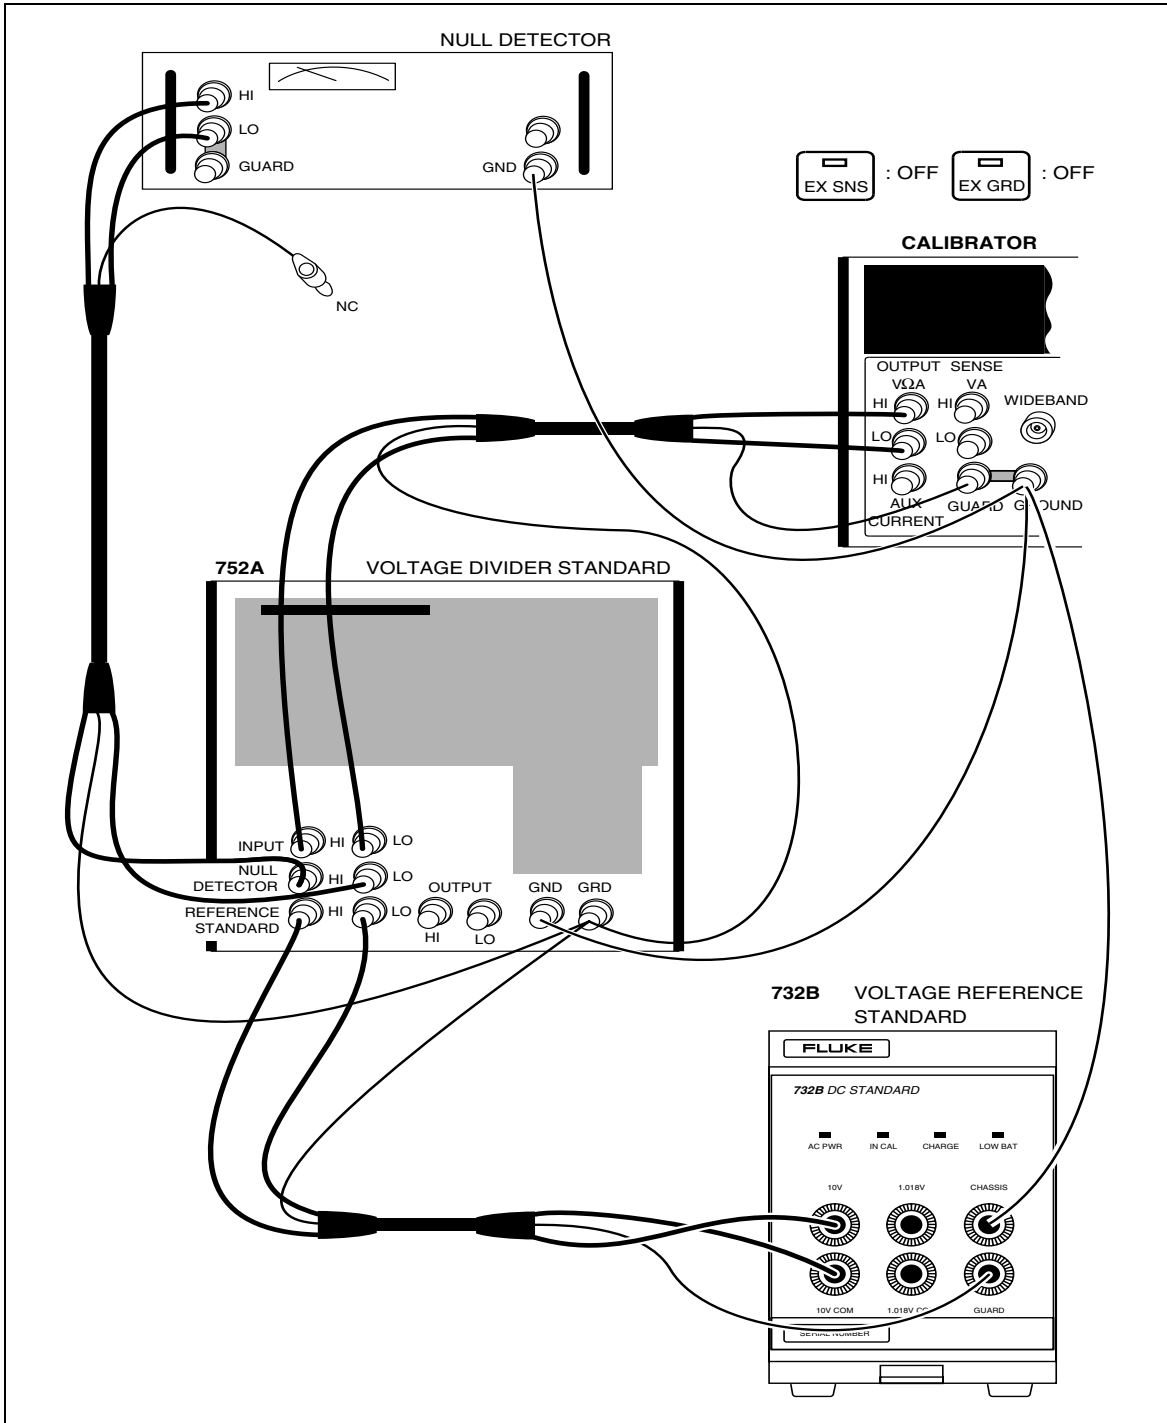

Figure 3-5. 220V DC Range Calibration Connections
6. Connect the 732B, null detector, and 752A in a 10:1 configuration, as shown in Figure 3-5.